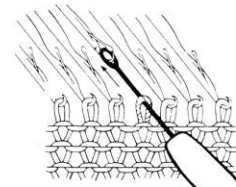

Fig.57-1
- Using the single eye transfer tool transfer the stitch from the needle where you wish to decrease onto the next needle towards the centre. (Fig.57-1)